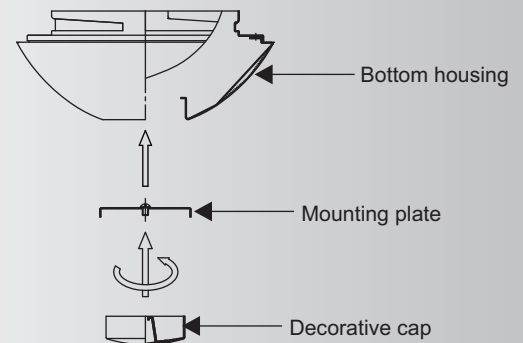

Fig. 19
Step 1. Attach the mounting plate to the bottom housing until it locks in place. (Fig.19)
Step 2. Turn the decorative cap against the mounting plate with the screw that previously from the mounting plate, and then turn clockwise until snug. (Fig.19)